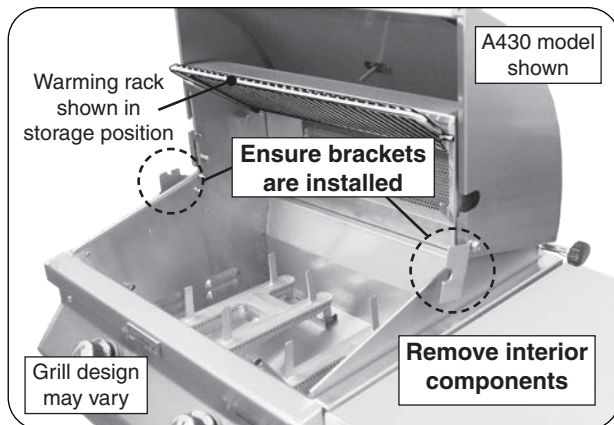

Fig. 3-1 Prepare grill for rotissing
1. Ensure the rotisserie mounting brackets are properly installed on your grill (see Fig. 3-1).
2. Set the warming rack to storage position, remove the backburner cover and cooking grids (see Fig. 3-1).